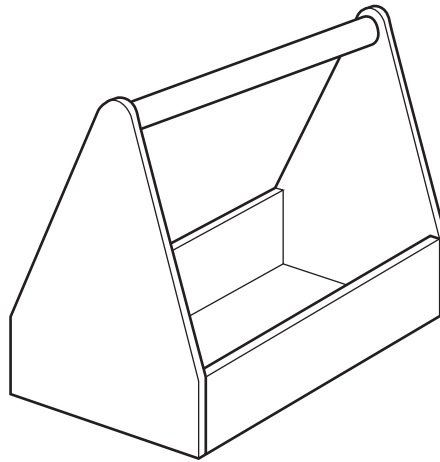

Fig. 8
Fig. 8 shows a holder for art materials.
(a) Give **four** design requirements for the holder of art materials shown in Fig. 8. Justify each requirement.
- (b) Describe **two** examples where ergonomics has influenced the design of the holder of art materials shown in Fig. 8.
(e) (i) State a **suitable specific material** for the holder of art materials shown in Fig. 8. Give **two** properties or characteristics that make the material suitable for this use.
- (ii) Describe, in detail, how the holder of art materials shown in Fig. 8 would be manufactured as a batch of 100.